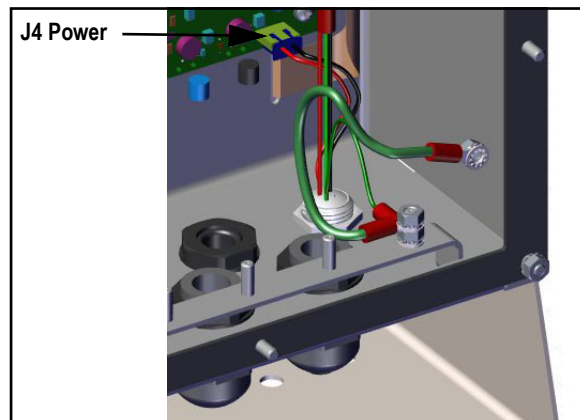

Figure 2-9. Connect DC Wiring
Note The DC power cable should be attached to connector J4 (Figure 2-9 on page 24).
4. Run the other two wires up the side of the indicator and connect the three pin plug (PN 15888) to the power supply board as shown in Figure 2-9 and Table 2-6 on page 24.